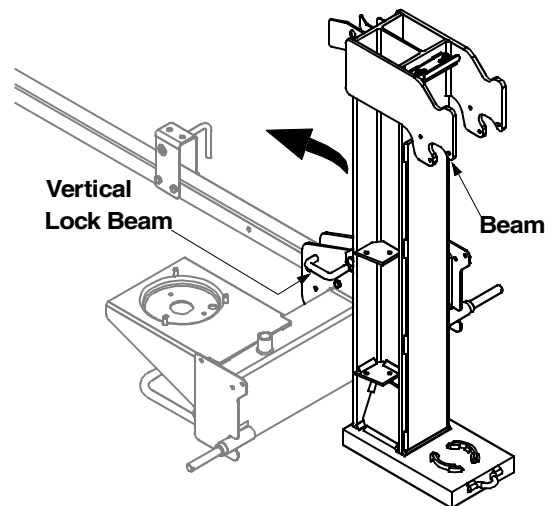

Figure 2
- The log splitter is shipped with the beam in the vertical position. Pull out the vertical lock beam, rotate it back, and pivot the beam to the horizontal position until it locks. See Figure 2.